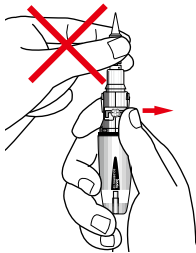

Fig.4
- Do not touch Tip, Tip Housing or Knurled Nut while igniting. (Fig. 4)